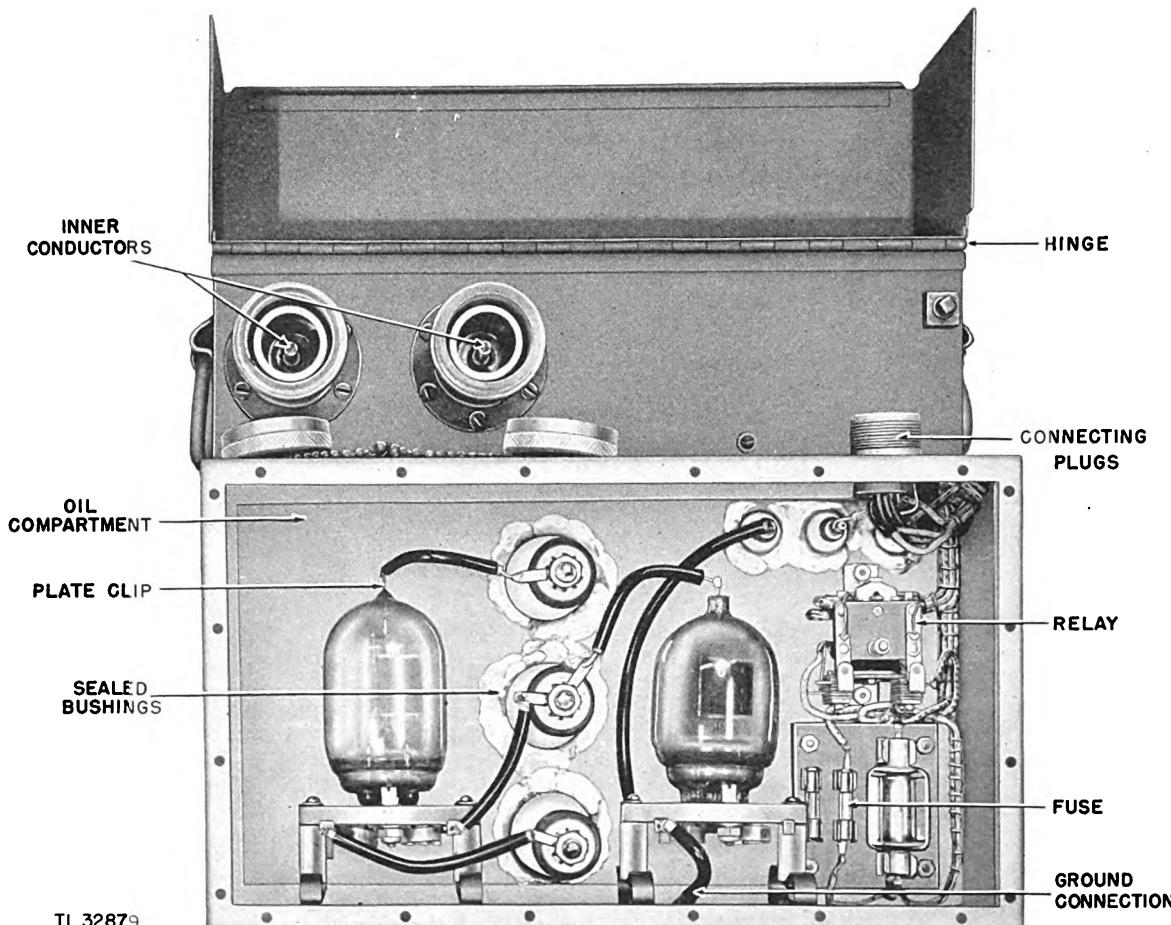

Figure 26. Modulator box with front cover removed.
- (d) The sealed bushings for proper soldering (fig. 26). Examine insulation for general condition.
- (g) The relay (fig. 26) for:
(h) The fuses and clips for general condition (fig. 26).
(b) The exterior of the relay with a dry cloth (fig. 26). If necessary, dip cloth in carbon tetrachloride. Make sure surface is wiped clean and dry.
NOTE: Avoid adjusting or changing the settings of the relay (fig. 26).